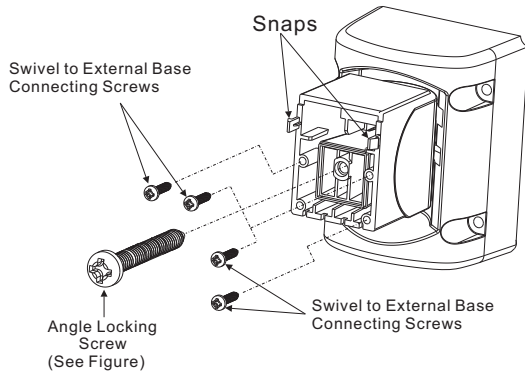

Figure 4
4. Connect the external base to the swivel using the temporary retaining snaps (Figure 4).
5. Insert the supplied angle-locking screw from the external base through the angle-locking screw hole on the external base to the swivel(Figure 4).
- a. Use a Philips screwdriver to release the angle-locking screw (Figure 4).
When marks on the two movable parts are aligned (Figure 4).the Swivel is in 0-degree vertical/horizontal position.